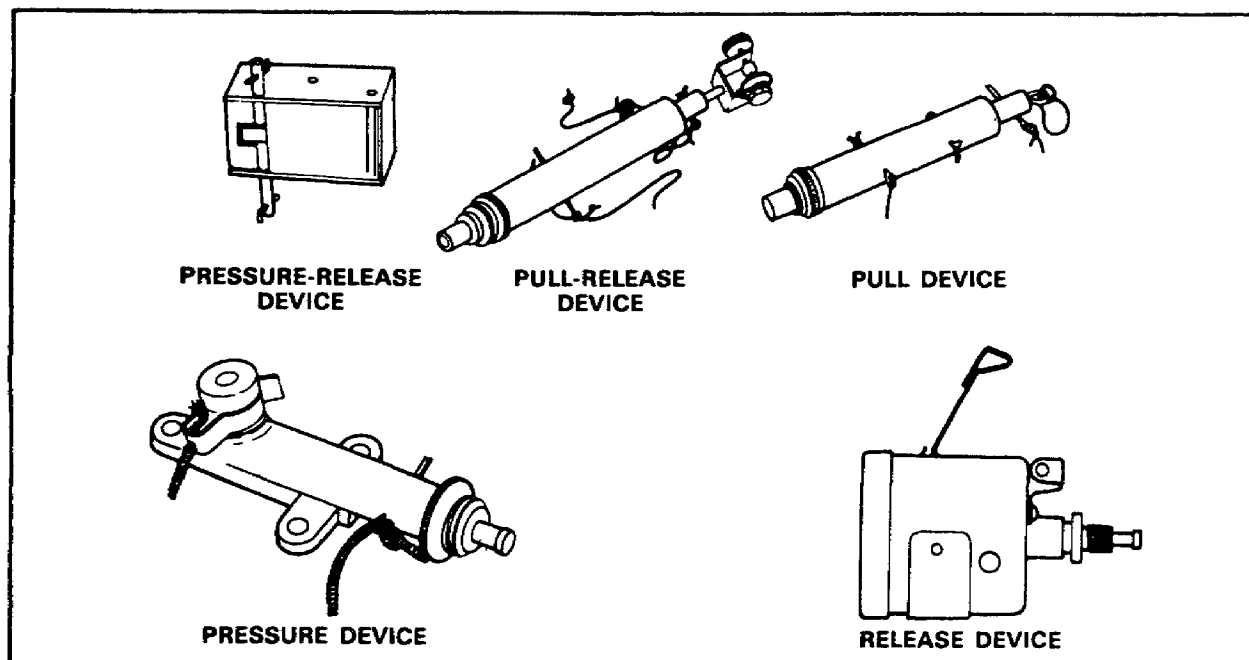

Figure 96. Demolition Firing Devices.
**Demolition Firing Devices.** Another way to initiate explosive charges is to use various detonators and firing devices. These devices are used mostly for booby-trapping. They use pressure, pull, release, or a combination of these actions, such as pull-release, for initiation. Some examples of demolition firing devices are shown in Figure 96.